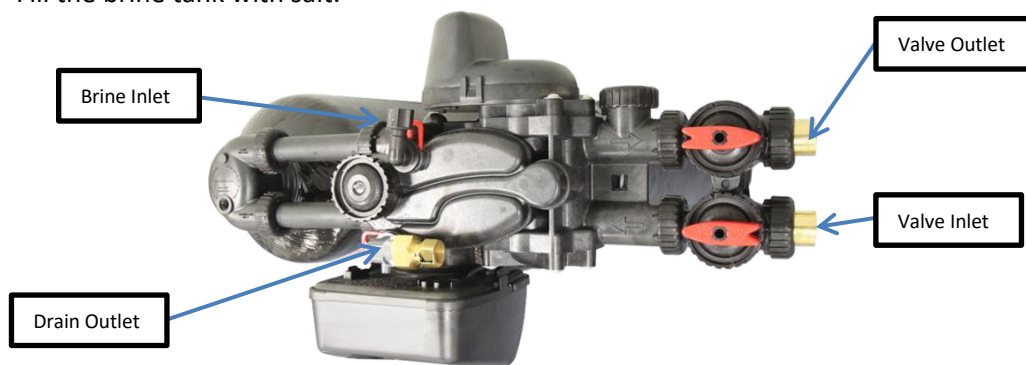

Figure 14: Control Valve Diagram
- C. A red latch with a Polytube insert attached is placed under the brine inlet of each valve. Place this insert in the brine line before connecting it to the brine inlet. (Figure 14)
- A. Pipe or tube a line from the Control Valve Drain (Figure 14) to the drain.